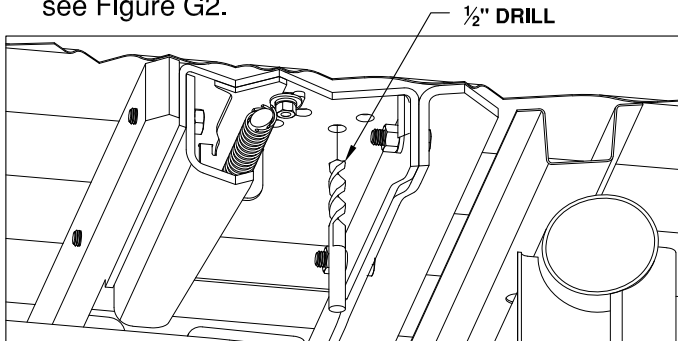

Figure G2: Cut away view of bed and center section
1. **Drill the holes.** From under the bed use a drill and a  $\frac{1}{2}$ " drill bit to drill through the bed using the four holes that match up with a low rib in the truck as a guide. Remove any burrs created during the drilling process, see Figure G2.